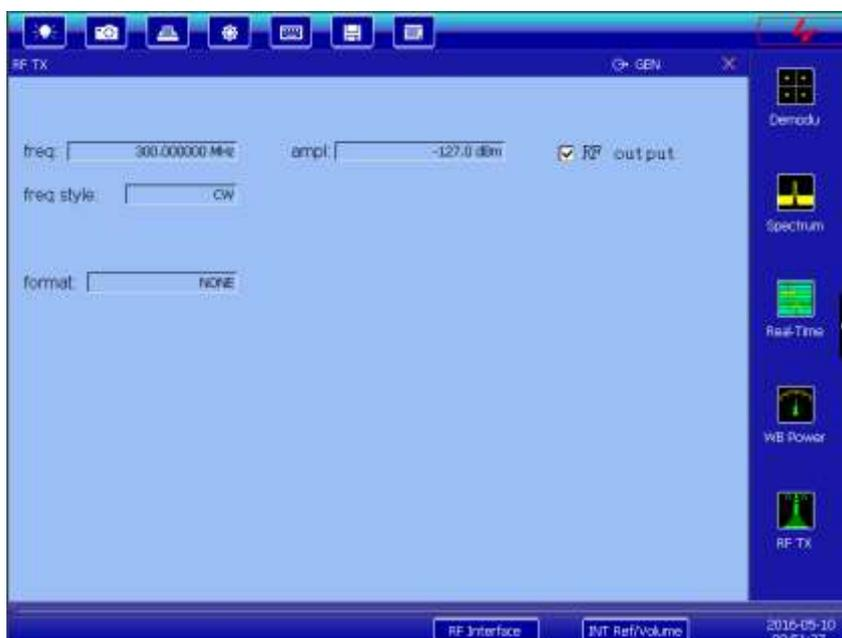

Fig. 4-1 RF TX startup interface
- 4) Click **[[RF output]]** in the upper left of the screen to enable the signal output function. After that, the dot frequency signal is output from the RF output connector, with the display interface shown in Fig. 4-1.